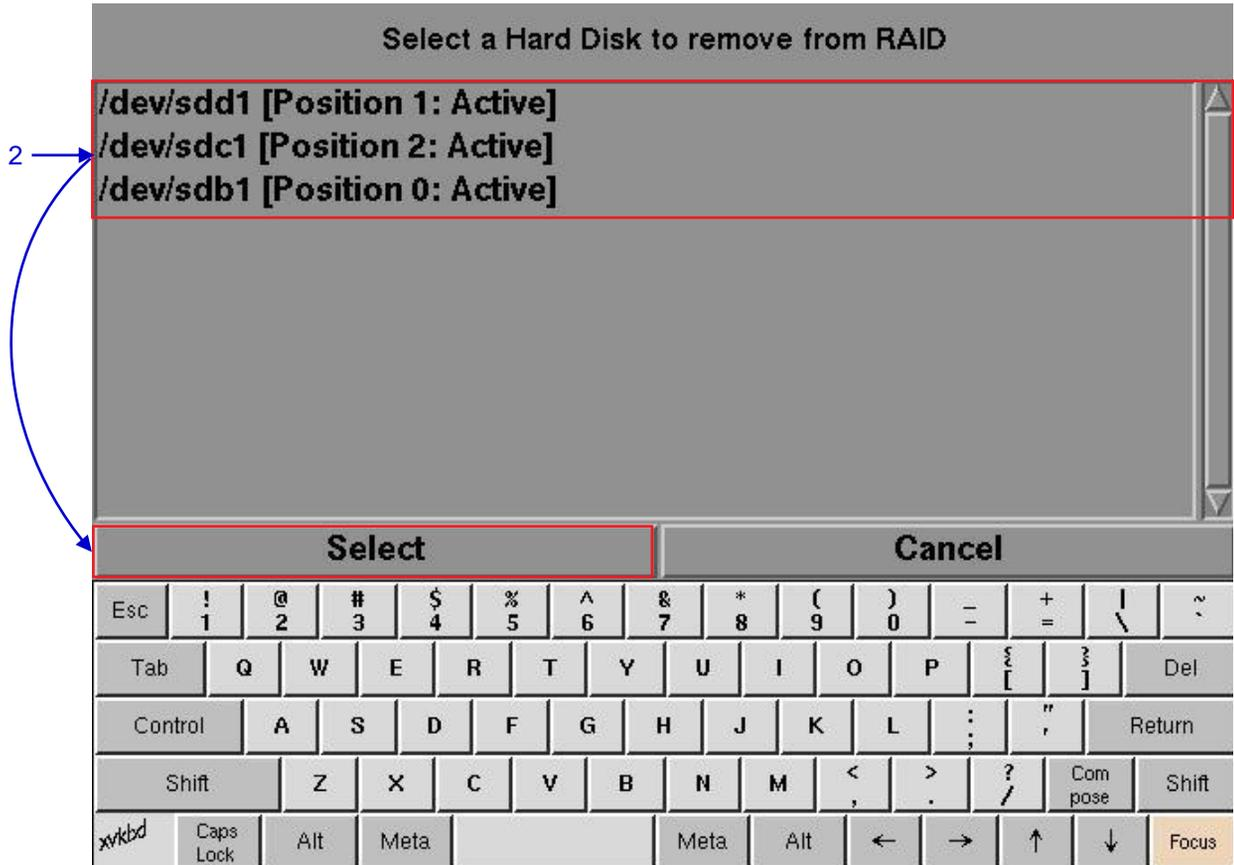

Figure 83 List of hard disks that can be removed from RAID.
- 1 Select **Remove disk from RAID array**. A new window appears as seen in Figure 83.